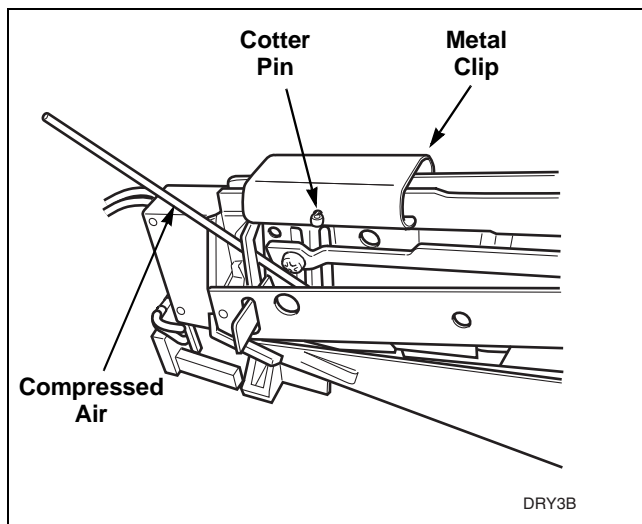

Figure 63
- If lint is preventing coins from rolling through coin drop, blow compressed air through coin entry and along the side of the coin drop. Refer to *Figure 63*.
- Remove cotter pin from top of drop. Refer to *Figure 63*. Save pin for reinstallation when cleaning is complete.
- Move metal clip closer to sensor so that it comes off frame. Refer to *Figure 63*.